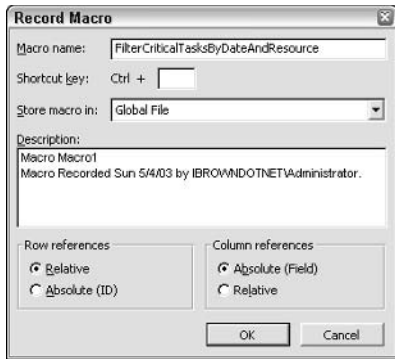

Figure 25-2: The Record Macro dialog box.
3. In the Macro name box, type **FilterCriticalTasksByDateAndResource**, as shown in Figure 25-2, and click OK. The macro recorder will now capture all your actions.